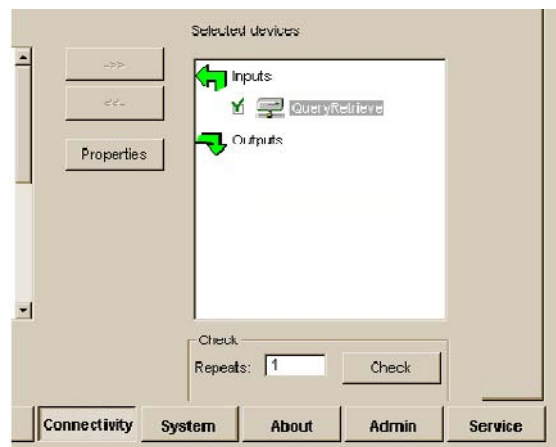

Figure 3-89 Test (Check) Passed
- If the test passes, a pop-up dialog is displayed, see left illustration in Figure 3-89. Select **OK** to continue. A green check mark to the left of the Selected devices indicates that the test passed successfully.